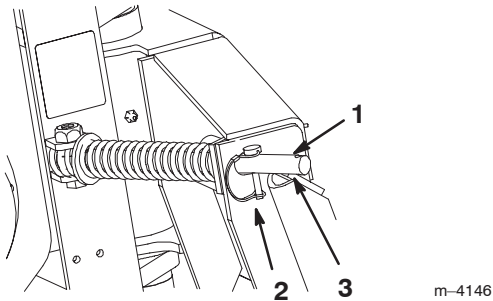

Figure 4
1. Move the lynch pins to the outside holes on the spring rods to allow the plow to move from side to side (Fig. 4).
1. Move the lynch pins to the inside holes on the spring rods to prevent side to side movement (Fig. 4).